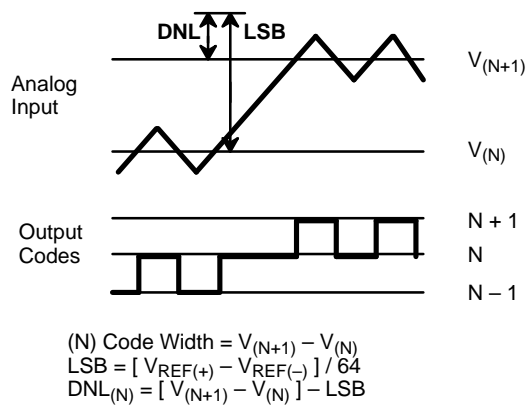
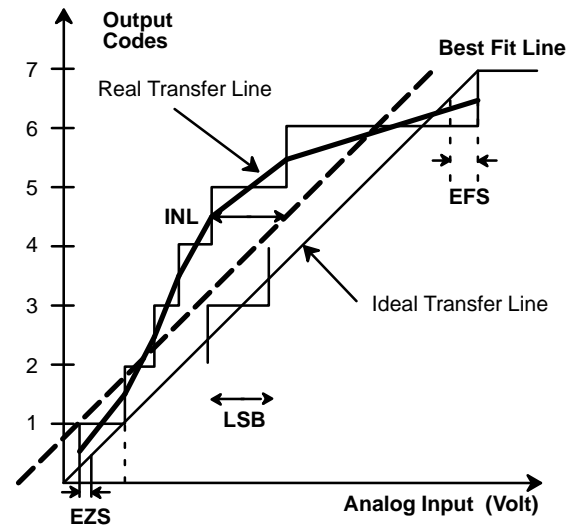

Figure 3. DNL Measurement
Figure 4. INL Error Calculation
- 1 Tester measures code transitions by dithering the voltage of the analog input (V_{IN}). The difference between the measured and the ideal code width ($V_{REF}/64$) is the DNL error (Figure 3). The INL error is the maximum distance (in LSBs) from the Best Fit Line to any transition voltage (Figure 4). Accuracy is a function of the sampling rate (F_S).